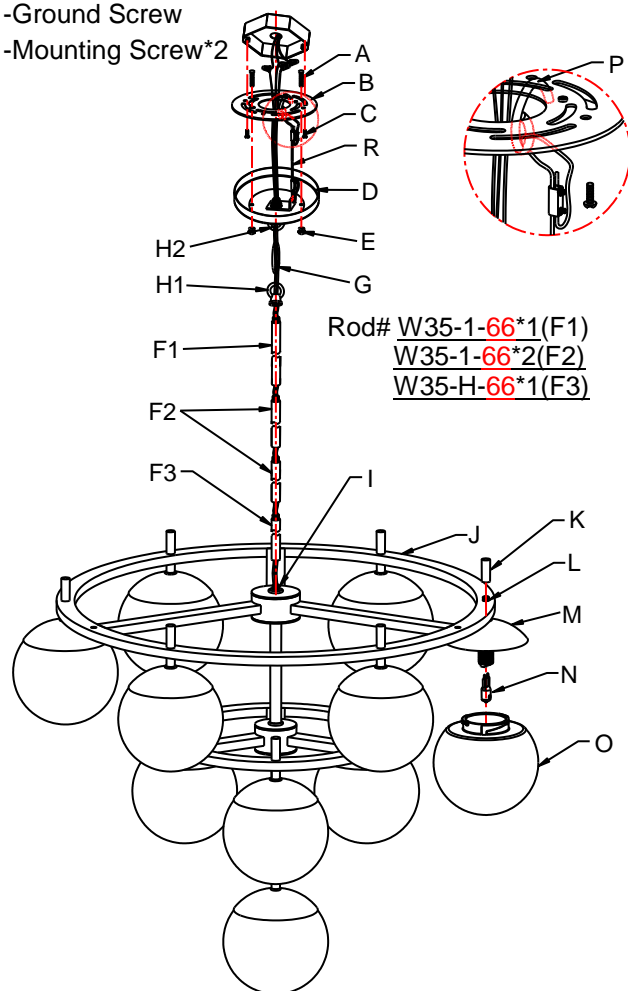

Fig. 3
CONNECTING THE WIRES (Fig. 3)
8. Connect the electrical wires as shown in figure 3, making sure that all wire connectors are secured. If your outlet has a ground wire (green or bare copper), connect the fixture's ground wire to it. Otherwise, connect the fixture's ground wire directly to the circular strap (B) using the green screw provided.